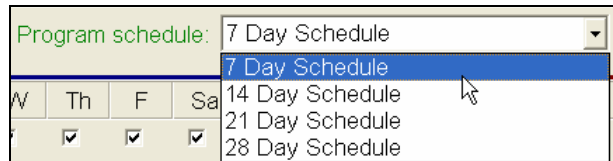

Figure 16.1.7A
- In the **Program Schedule** box using the drop down arrow to the right choose which type of schedule that you want (Figure 16.1.7A).